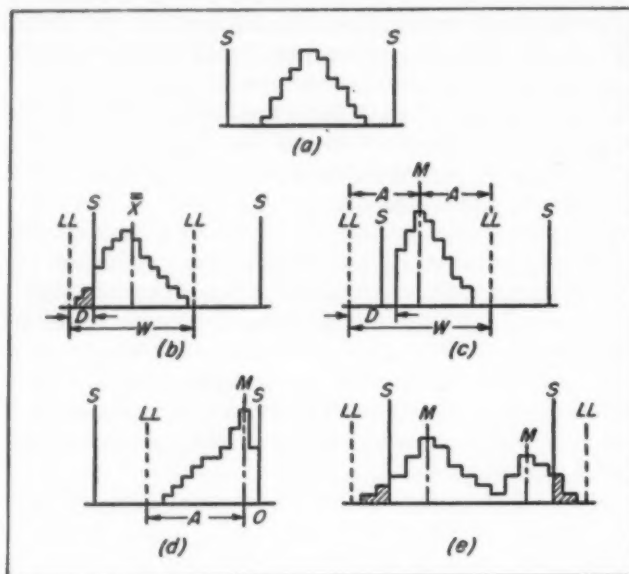

Fig. 32—The most common distributions to be found by Lot Plots. Six other types are covered in the reference of footnote 1
In Fig. 32 the range of the first five pieces is six cells, each being 0.001-inch, giving 0.006. Double this range is 0.012 or 12 intervals, satisfactorily between 7 and 16. If this were not the case a larger or smaller interval would have to be picked to give the right sensitivity to the histogram. The doubling gives an estimate of the base width of the completed distribution. The gage used must be capable of being read to each of the intervals.
**How To Analyze Lot Plots:** The picture obtained by the foregoing plan should be compared with one of the five types of Lot Plots shown in Fig. 32. Type *a* is a normal-shaped, symmetrical distribution that lies well within the specification limits. Even the lot limits do not need to be found. The lot can be considered acceptable for this characteristic.